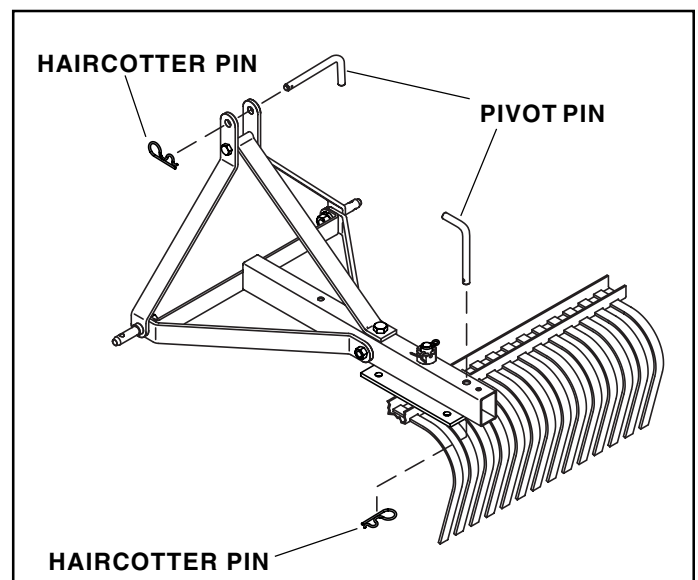

FIGURE 7
- Lock the rake assembly to the mast assembly by installing a pivot pin at the rear of the mast assembly. Secure the pin using a haircutter pin through the hole in the end of the pivot pin. See figure 7.
- Install a pivot pin through the upper end of the mast sides. Secure the pin with a haircutter pin through the hole in the end of the pivot pin. See figure 7.